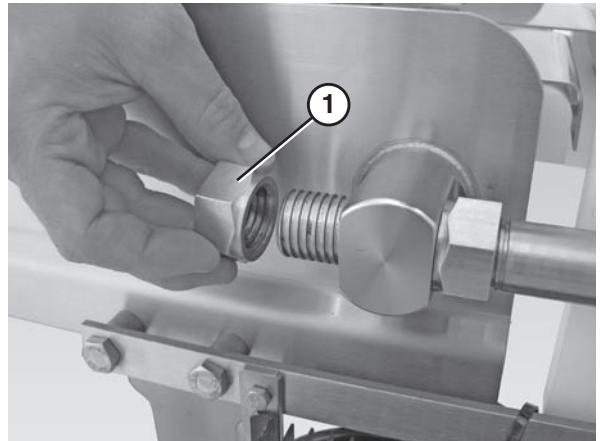

Figure 73
1. Remove the back nuts (**Figure 73, item 1**) on both discharge nose bar shafts.